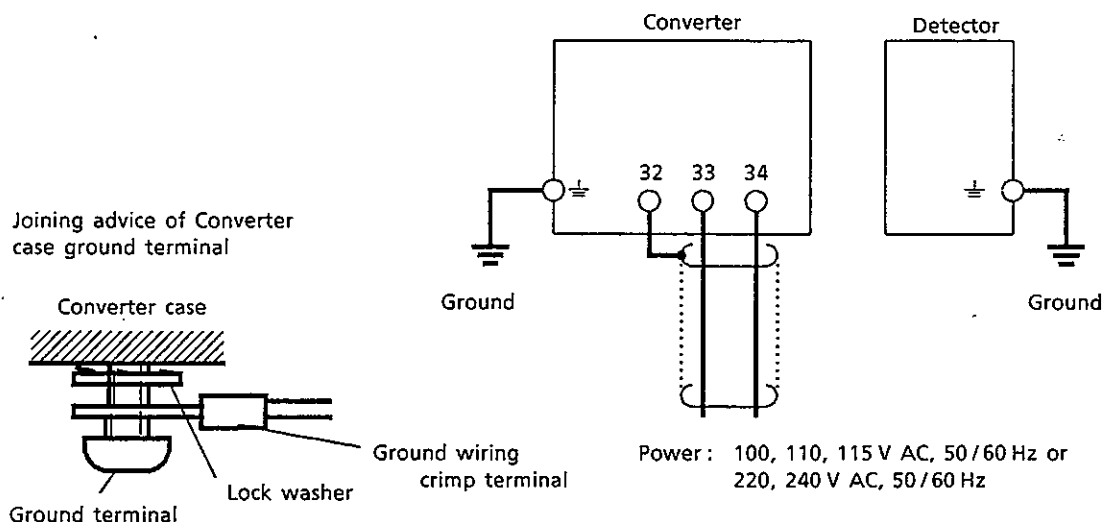

Figure 5.7 Power and Ground Wiring
- (4) Connect the cable to the converter case ground terminal so that the lock washer makes contact with the case (see Figure 5.7).